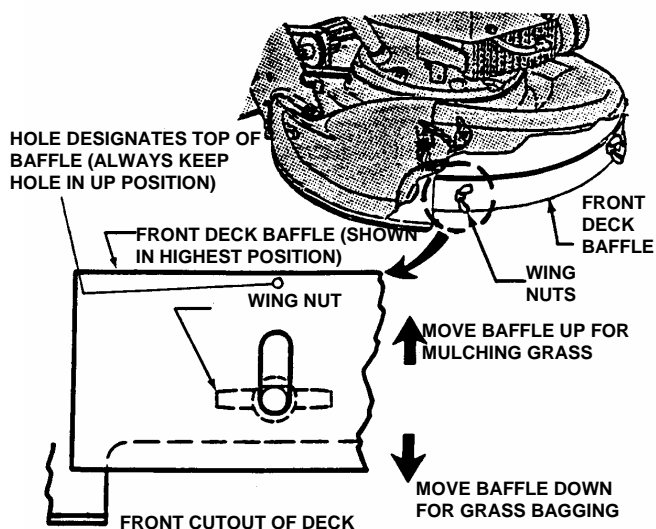

FIGURE 2.8
2. Loosen wing nuts that secure front deck baffle. See Figure 2.8.
3. Lower the adjustable baffle to the lowest position when using a grass bag. Raise the baffle to its highest position when mulching grass. Take care to keep the baffle's lower edge parallel to the bottom of the deck. See Figure 2.8.